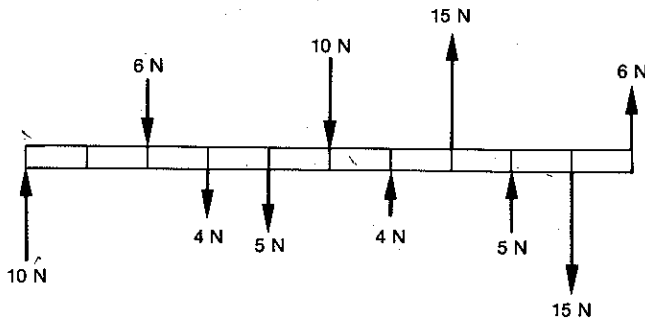

Fig. 5.18
- 5.15 A horizontal bar is subjected to a number of forces as shown in Figure 5.18. Prove that the bar is in rotational equilibrium: